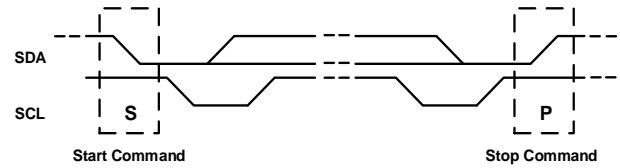

Figure 7: Start and Stop Command
The start and stop commands are signaled by the master device, which signifies the beginning and the end of the digital interface transfer. The start (S) command is defined as the SDA signal transitioning from high to low while the SCL line is high. The stop (P) command is defined as the SDA signal transitioning from low to high while the SCL is high (see Figure 7).